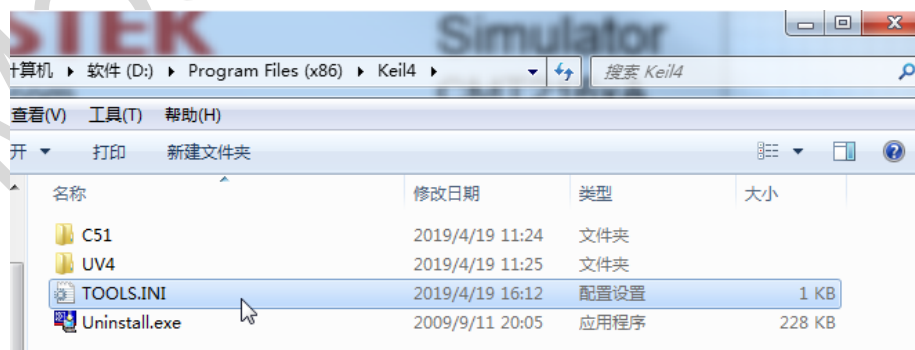
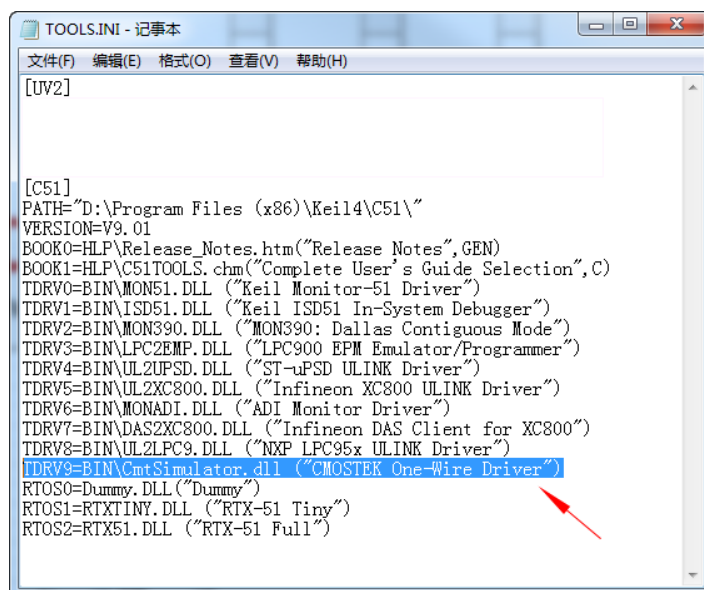

Figure 14. TOOLS.INI File Path
Figure 15. Add CmtSimulator.dll File Link
- Step 2, modify the file *TOOLS.INI* in the Keil installation path to add the CMT216xA simulator into the Keil debugger selection list as shown in Figure 14 and Figure 15.